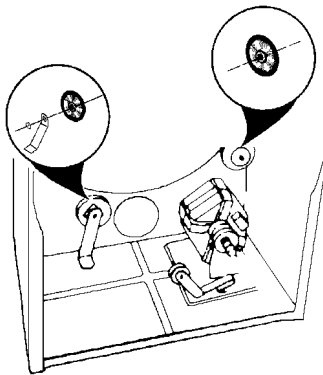

Figure 7
1. Remove support brace (if so equipped) from left-hand support roller. See Figure 7.
2. Remove triangular rings from shafts by using a screwdriver to pry the ring off the shaft, and remove the rollers. See Figure 7.